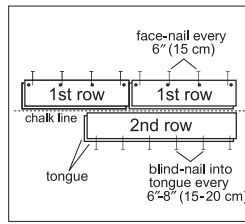

Figure 8
- If using a pneumatic finish nailer to face-nail the groove side 1/2" (13 mm) from the edge at 6" (15 cm) intervals and 1"–3" (2.5–8 cm) from each end then blind nail using finishing gun held at a 45° angle. Nail down through the nailing "pocket" on top of the tongue every 6"–8" (15–20 cm) (Figure 8).
- If using finish nails, pre-drill the nail holes with a 1/32" (8 mm) bit approximately 1/2" (13 mm) from the back (groove) edge, 1"–3" (2.5–8 cm) from each end, and at 6" (15 cm) intervals. Pre-drill at the same intervals at a 45° angle down through the nailing "pocket" on top of the tongue (Figure 8). Face-nail the groove side where pre-drilled. When complete blind-nail at a 45° angle through the tongue of the first row. Fasten using 6 or 8d finish nails. Countersink nails to ensure flush engagement of groove. Avoid bruising the hardwood by using a nail set to countersink the nails.